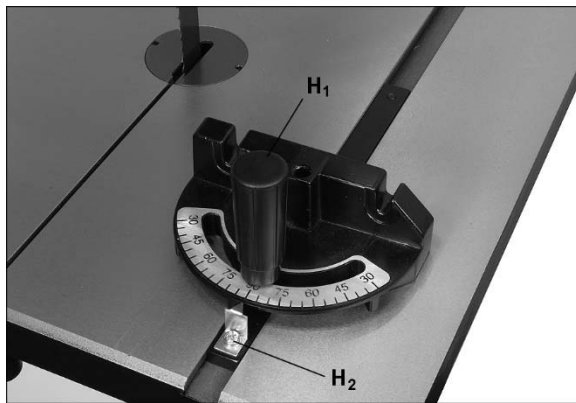

Figure 5-9
Refer to Figure 5-9.
3. If miter gauge is not square to blade, loosen lock knob (H₁, Figure 5-9) and adjust to proper setting. Tighten lock knob.